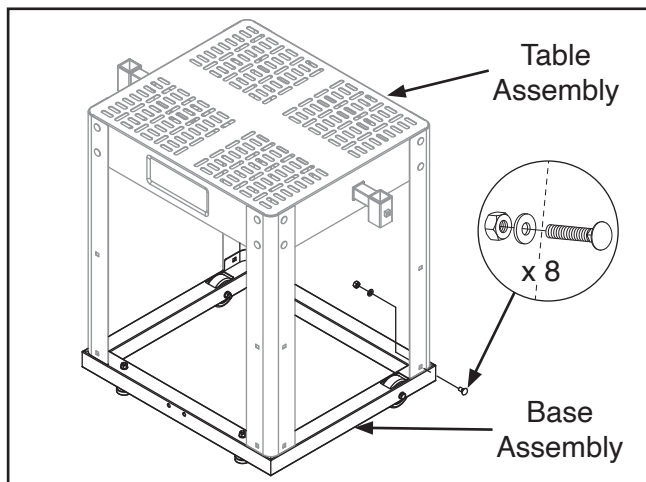

Figure 5. Leg to base installation.
5. Turn table assembly over and place on base assembly (see **Figure 5**), with legs positioned outside mounting tabs.
6. Attach legs to base assembly with (8) M8-1.25 x 16 carriage bolts, 8mm flat washers, and M8-1.25 hex nuts (see **Figure 5**).